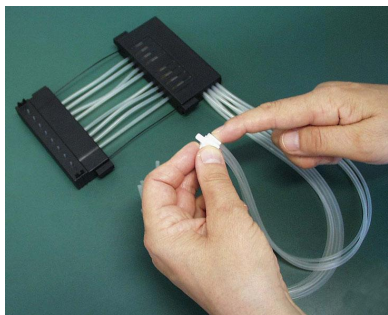

Figure 5-55. Inserting the tubes into the PEEK tubing weight
19. Insert the eight tubes into the PEEK tubing weight either at this stage or earlier (Figure 5-55). The new tubing set has now been successfully fitted.